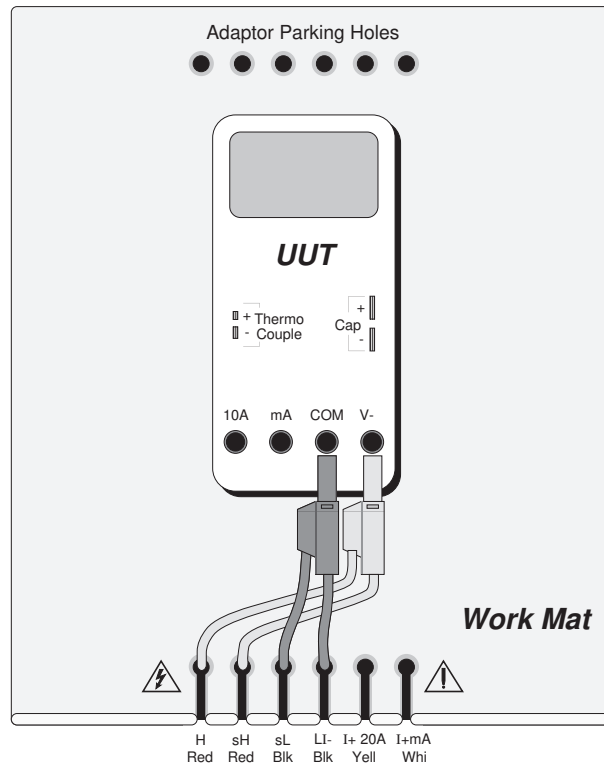

Fig. 10.1 Connections for Mark/Period Calibration
1. Connections Connect the 9100 to the UUT as shown in Fig. 10.1 , and ensure that both instruments are powered ON and warmed up.
Connect the 9100 to the UUT as shown in *Fig. 10.1*, and ensure that both instruments are powered ON and warmed up.